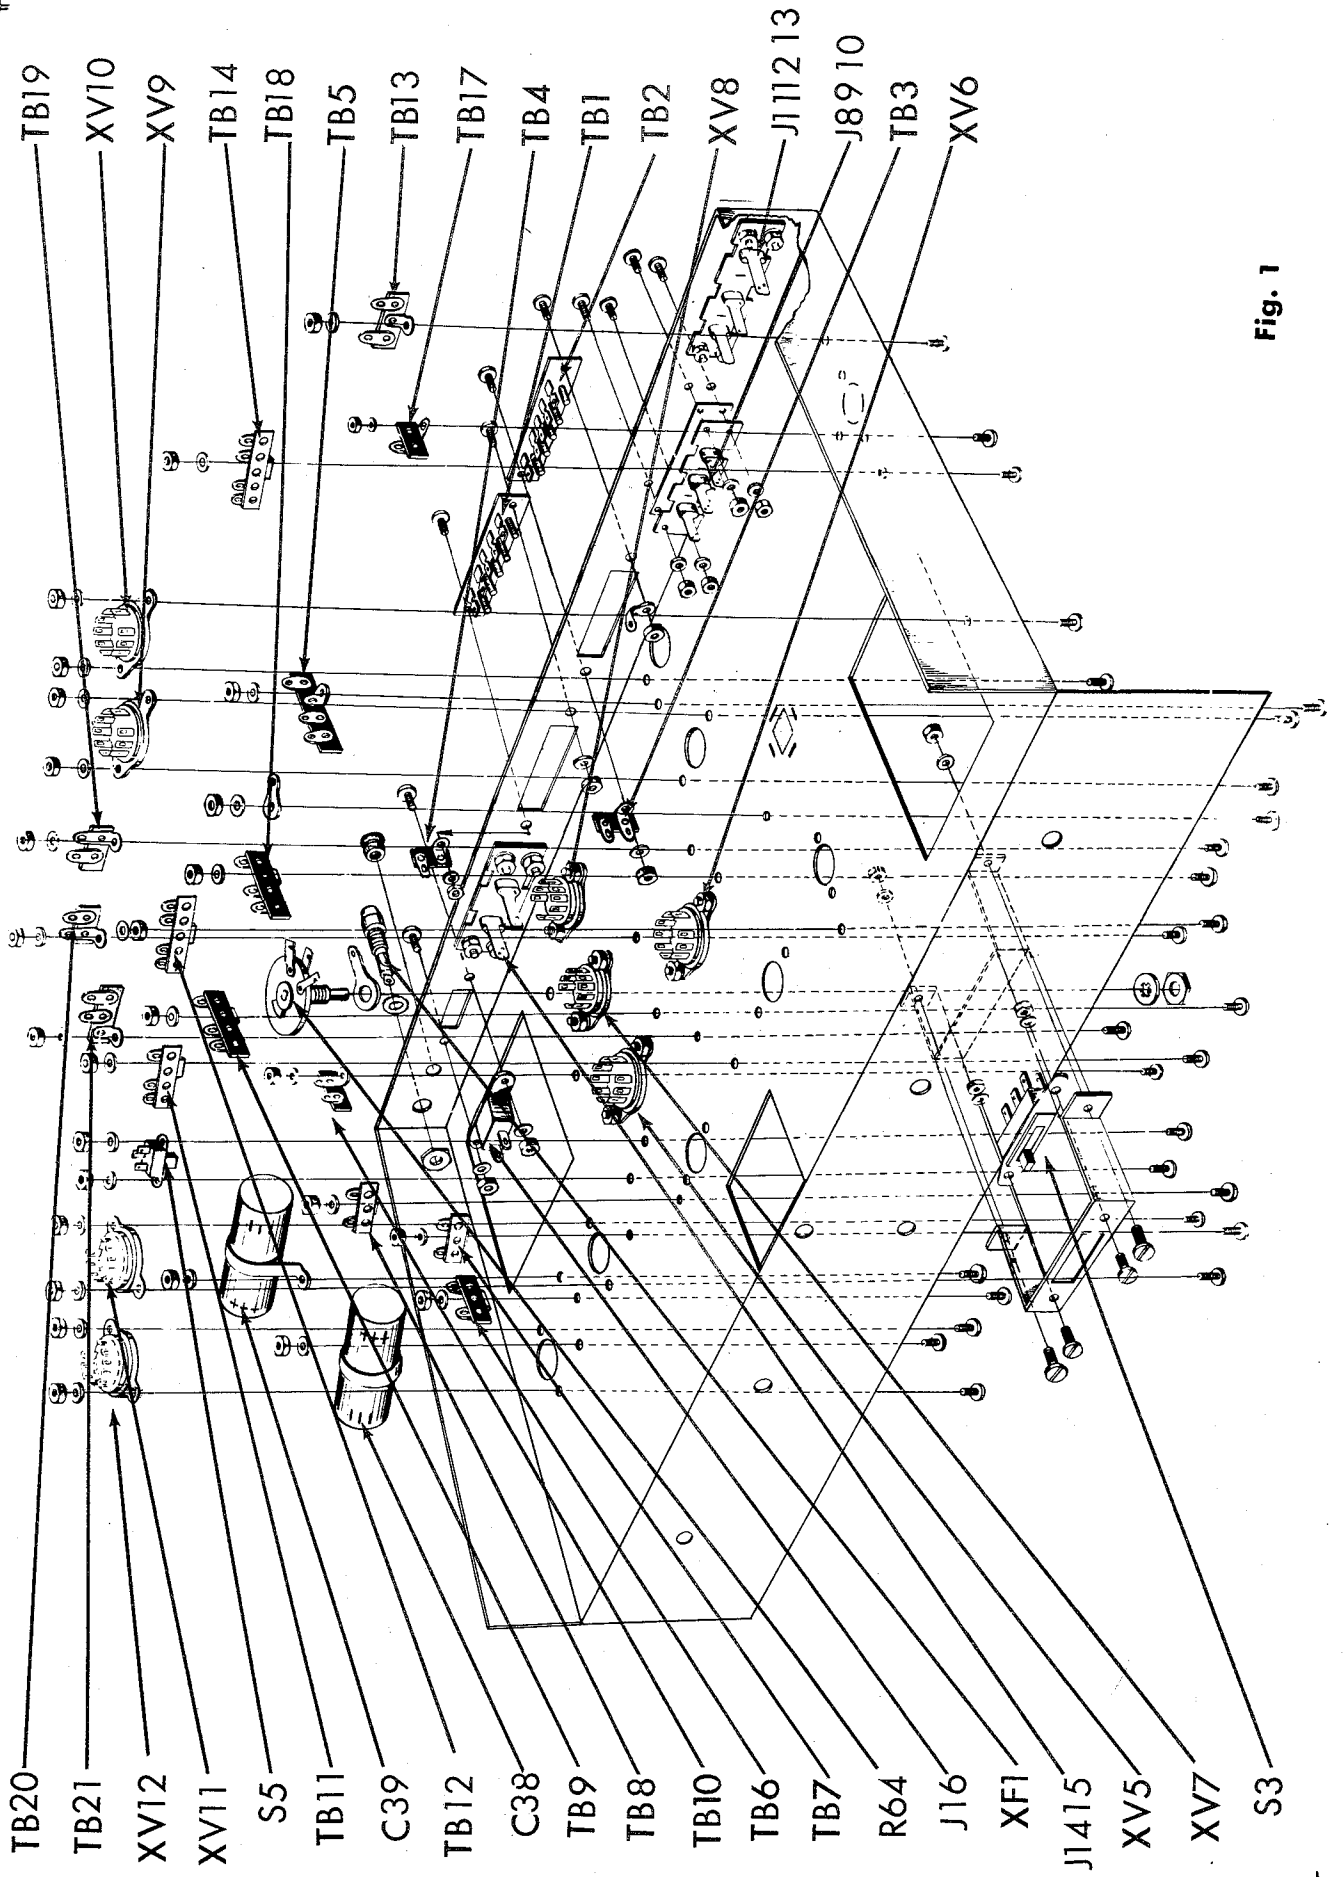

Fig. 1
Note: In addition to Fig. 1, it will be required to refer to Fig. 6 in the following mounting procedure in order to settle such matters as orientation of terminal boards, keyways on tube sockets, etc. The wiring which comes later will be greatly facilitated if, after mounting each part, the symbol number of the part is written on the bottom of the chassis next to the part with a crayon or soft pencil.
1. (✓) Fig. 1. Mount the 9 pin miniature tube socket, XV12, as shown. Use two #4-40 screws, two #4 lockwashers, and two #4-40 hex nuts. Note the mounting direction in figure 6.
2. (✓) Fig. 1. Similar to the above, mount 9 pin miniature sockets, XV11, XV5, XV6, XV7, XV8, XV9 and XV10. Use two #4-40 screws, two #4 lockwashers, and two #4-40 hex nuts on each. In each case, note the mounting direction in figure 6.
3. (✓) Fig. 1. Mount the 3 terminal input jack strip, J8, 9, 10 as shown. Use four #6-32-screws, four #6 lockwashers and four #6-32 hex nuts. Mount the 3 hole insulator between the chassis and the input jack strip. (Fig. 10).
4. (✓) Fig. 1. Mount the 3 terminal input jack strip, J11, 12, 13, as shown. Note mounting direction in figure 10. Use four #6-32 screws, four #6 lockwashers and four #6-32 hex nuts. Mount a 3 hole insulator between the chassis and the input jack strip. (Fig. 10)
5. (✓) Fig. 1. Mount the double pole 2 position slide switch, S3, into the switch bracket, as shown. Use two #4-40 screws, two #4 lockwashers and two #4-40 hex nuts.
6. (✓) Fig. 1. Mount the switch bracket with the switch (previously mounted in step 5) on the chassis, as shown. Use two #6-32 screws, two #6 lockwashers and two #6-32 hex nuts.
7. (✓) Fig. 1. Mount the 2 terminal tape output jack strip, J14, 15, as shown. Use four #6-32 screws, four #6 lockwashers and four #6-32 hex nuts.. Mount a 2 hole insulator between the chassis and the jack strip.
8. (✓) Fig. 1. Mount the 5 screw terminal board, TB1, as shown. Use two #6-32 screws, two #6 lockwashers and two #6-32 hex nuts. Under one of the lockwashers, mount one post right terminal strip, TB4.
9. (✓) Fig. 1. Mount the 5 screw terminal board, TB2, as shown. Use two #6-32 screws, two #6 lockwashers and two #6-32 hex nuts. Under the lockwasher, mount one post right with ground terminal strip, TB3. Under the remaining nut, mount a #6 ground lug.
10. (✓) Fig. 1. Mount the fuseholder, XF1, as shown. Use rubber washer against the outside of the chassis under the wider part of the holder. Slide the large nut over the fuseholder on the inside of the chassis. DO NOT tighten nut.
11. (✓) Fig. 1. Push a rubber grommet into the 3/8" hole next to the fuse-holder.
12. (✓) Fig. 1. Mount the convenience outlet, J16, as shown. Use two #6-32 screws, two #6 lockwasher and two #6-32 hex nuts.
13. (✓) Fig. 1. Mount the 30 mfd, 400V electrolytic capacitor, C38, as shown. Use one #6-32 screw, one #6 lockwasher and one #6-32 hex nut. Note direction of positive side.
14. (✓) Fig. 1. Mount the 30 mfd, 400V electrolytic capacitor, C39, as shown. Use one #6-32 screw, one #6 lockwasher and one #6-32 hex nut. Note direction of positive side. (It is the reverse of C38 in step 13 above.)
15. (✓) Fig. 1. Mount hum bucking potentiometer, R64, as shown. Use one 3/8" lockwasher and one 3/8 hex nut. Between the potentiometer and the chassis, use one 3/8 pot grounding lug. When tightening potentiometer, line up the lug with terminal #2. The grounding lug will eventually be soldered to this terminal.
16. (✓) Fig. 1. Mount the following terminal strips as shown. Use one #6-32 screw, one #6 lockwasher and one #6-32 hex nut on each. The terminal strips to be mounted in this manner are: three post, two left, TB5; two post, TB6; two post, TB7; two post, TB8; three post, two right, TB9; one post-left with ground, TB10; three post, two right, TB11; four post, TB12; two post, TB13; four post, TB14; one post left, TB17; three post, two right, TB18; one post left with ground, TB19; one post right with ground, TB20, and two post right, TB21.
17. (✓) Fig. 1. Mount the single pole 2 position slide switch, S5, as shown. Use two #4-40 screws, two #4 lockwashers and two #4-40 hex nuts.
18. (✓) Fig. 1. Mount the #6 ground lug "G" with one #6-32 screw, one #6 lockwasher and one #6-32 hex nut. Note position of lug on figure 6.